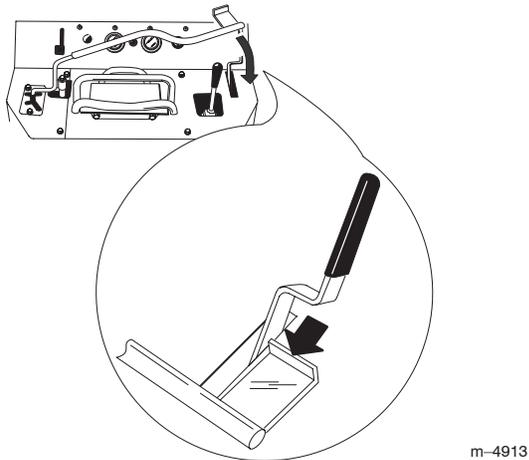

Figure 15
- C. Set the parking brake and release the clamp so that it catches under the brake lever (Fig. 15).